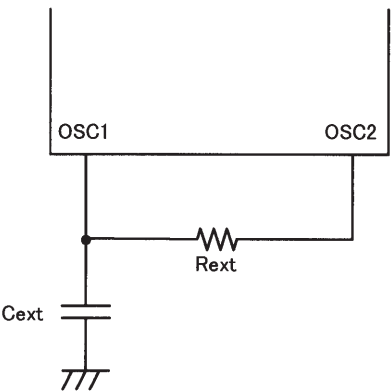

Figure 2 Two-Pin RC Oscillator Circuit
| Recommended oscillator circuit constants | CextRext                        | Figure 2   | V DD = 3 to 6 V | OSC1, OSC2   | 270 ±5%12 ±1%  |                      | pFkΩ |
| Two-pin RC oscillator                    | CextRext                        | Figure 2   | V DD = 3 to 6 V | OSC1, OSC2   | 270 ±5%5.6 ±1% |                      | pFkΩ |
| Two-pin RC oscillator     |                              | IDDOP (1)           | • Operating, with the output n-channel transistors off• With the ports at V DD• Figure 2, fosc = 800 kHz (typical)                  | V DD   |                       | 1.5                 | 4                   | mA   |
| Two-pin RC oscillatorOscillator frequency | $f_{\text{MOSC}}$       | <ul style="list-style-type: none"> <li>Figure 2, <math>C_{\text{ext}} = 270</math> pF <math>\pm 5\%</math></li> <li>Figure 2, <math>R_{\text{ext}} = 5.6</math> k<math>\Omega</math> <math>\pm 1\%</math></li> </ul>  | OSC1, OSC2   | 587                       | 800                          | 1298                       | kHz           |
|   |                         | <ul style="list-style-type: none"> <li>Figure 2, <math>C_{\text{ext}} = 270</math> pF <math>\pm 5\%</math></li> <li>Figure 2, <math>R_{\text{ext}} = 12</math> k<math>\Omega</math> <math>\pm 1\%</math></li> </ul>   | OSC1, OSC2   | 290                       | 400                          | 818                        |               |